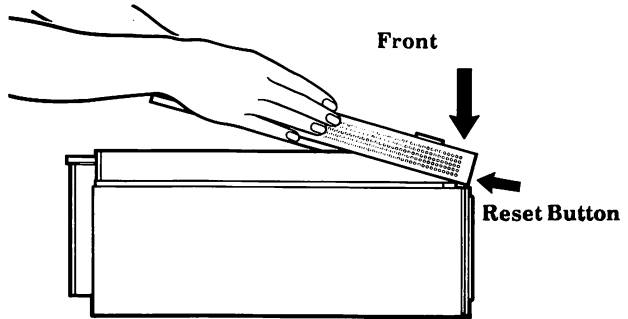

Figure 2-12. Replace the bottom cover.
- Position the front of the cover over the **RESET** button **CAREFULLY** to avoid damaging it. See Fig. 2-12.